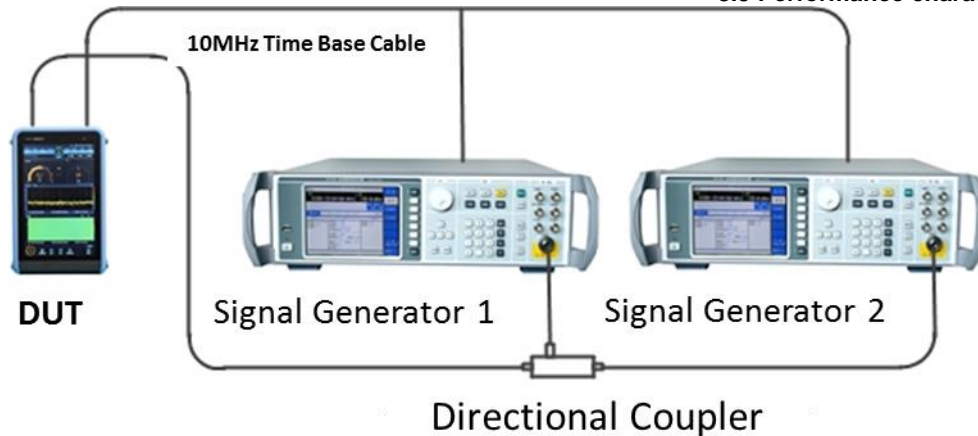

Fig. 8.10 Schematic diagram of the second-order intercept point test
1) Connect the test equipment as shown in Figure 8.10.